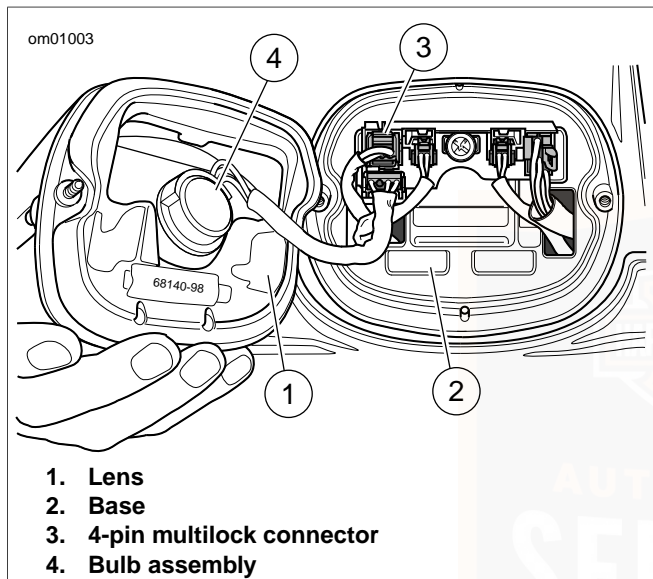

Figure 44. Tail Lamp Assembly: Standard Style
1. See Figure 44. Make certain ignition switch is turned off.